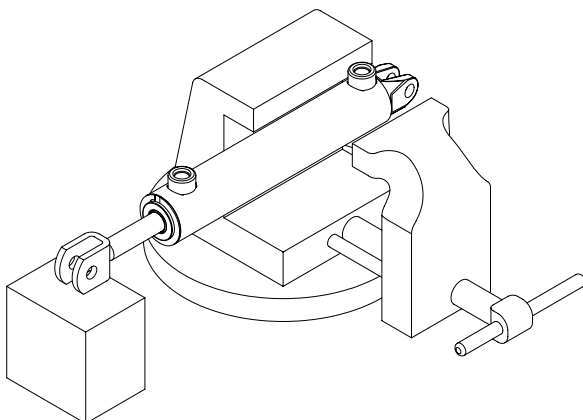

Figure 1-1, Cylinder Vise
2. Clamp the cylinder lightly at the base end in a soft jawed vise. Use a block or other support under the rod end of the cylinder. (Figure 1-1)